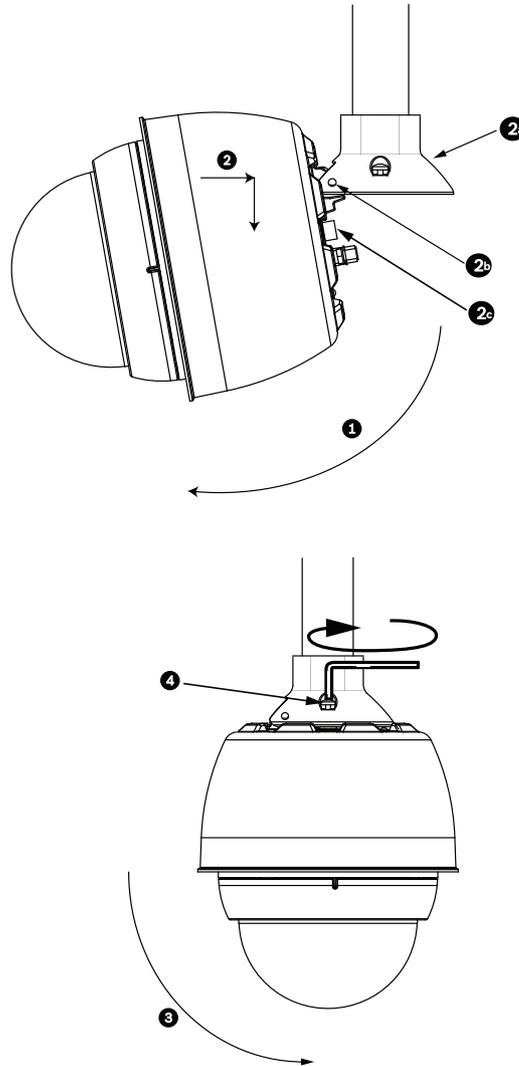

Figure 2.12 Pendant to Roof / Pipe Mount Attachment
7. Tighten the three (3) 10-mm (3/8-inch) stainless steel hex bolts on the bracket to lock the Parapet Arm in position. Refer to *Figure 2.12, Page 24*, for an illustration.